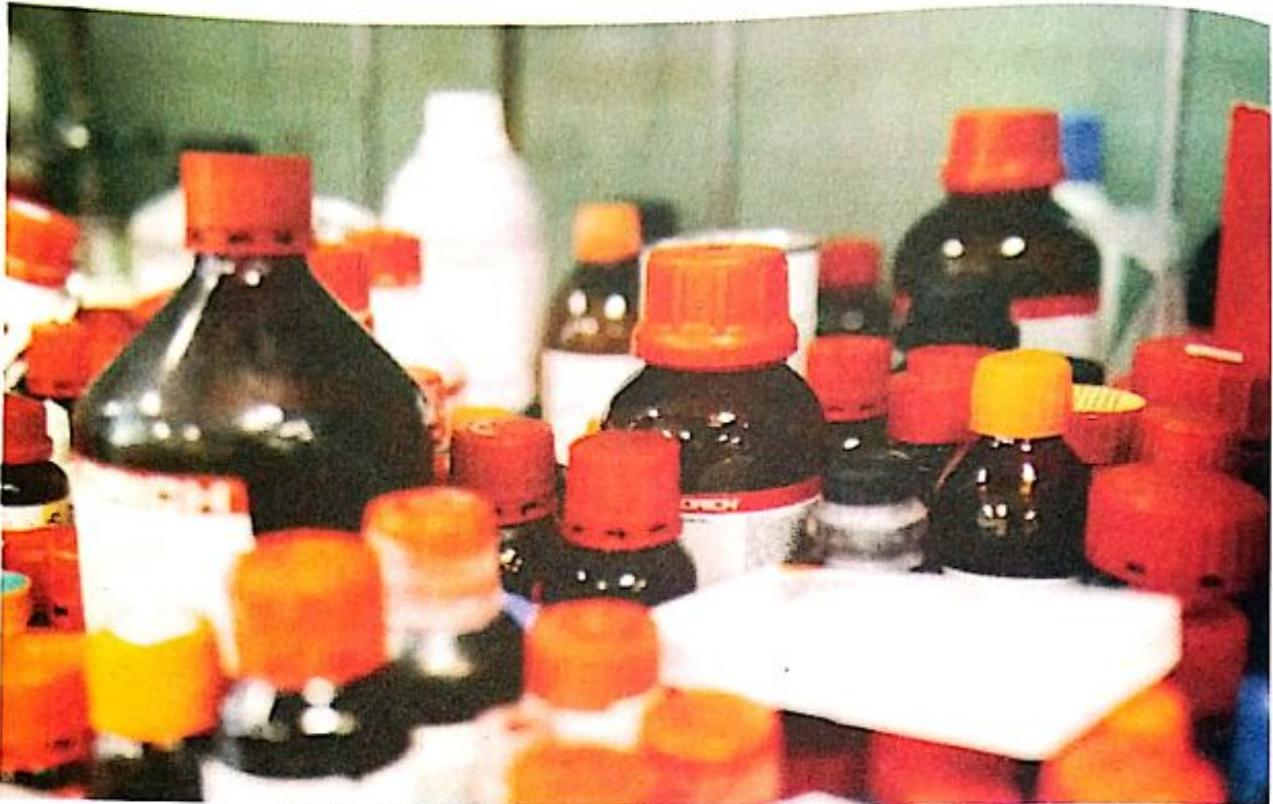

Figure 2.6: Some chemical products in Uganda
- Use as food for humans or animals, or in the preparation of it. Figure 2.6 show different industrial chemical produced in Uganda